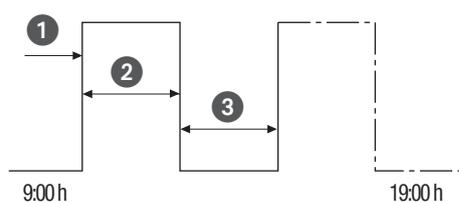

Fig. 28: Example of a cycle switching program
- (Fig. 28/①) Start time
- (Fig. 28/②) Permanently ON = switching ON
- (Fig. 28/③) Permanently OFF = switching OFF